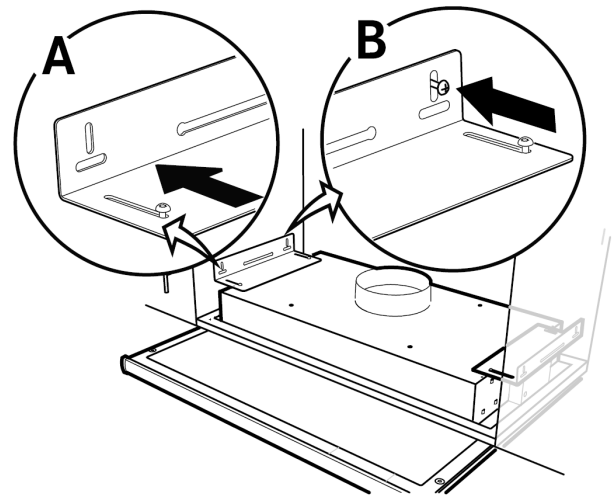

Fig. 3 Installation using brackets
2. Attach the brackets as far into the cooker hood as possible. Insert the cooker hood up into the hole in the base of the cupboard. Pull out (figure 3, pos. A) and use screws to fasten the brackets to the sides of the cupboard (figure 3, pos. B). Tighten the brackets in the cooker hood.